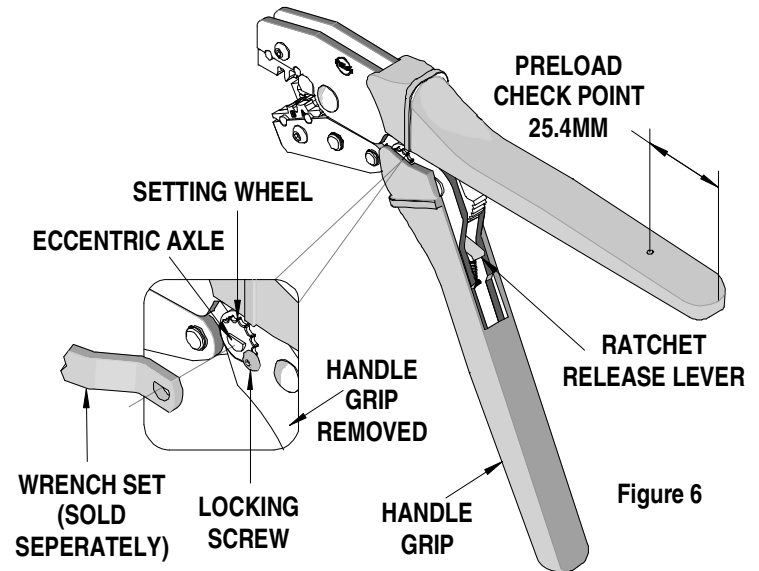

Figure 6
3. Make certain all pins; pivot points and bearing surfaces are protected with a thin coat of high quality machine oil. Do not oil excessively. The tool was engineered for durability but like any fine piece of equipment it needs cleaning and lubrication for a maximum service life of trouble free crimping. Light oil such as 30 weight automotive oil used at the oil points shown in Figure 6, every 5,000 crimps or 3 months, will significantly enhance the tool life.
Should this tool ever become stuck or jammed in a partially closed position, **Do Not force the handles open or closed.** The tool will open easily by pressing the ratchet release lever. See Figure 6.
### How To Adjust Tool Preload (See Figure 6)